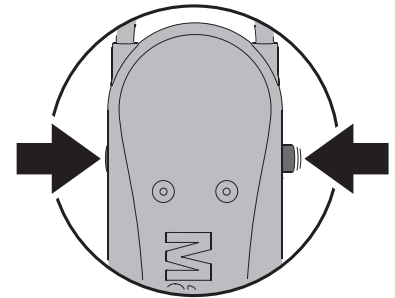

Figure 1
2. Place the fixture on a secure work surface. See Figure 1. Tilt the head vertically upwards and apply the tilt lock.